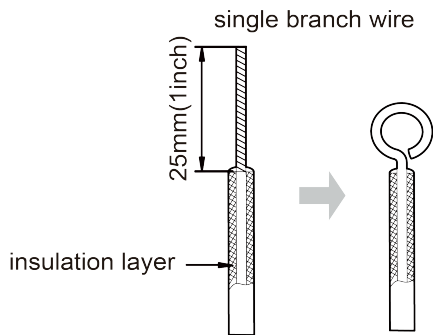

Fig. 5.1.1
- (1) The connection of wire (as shown in Fig. 5.1.1).